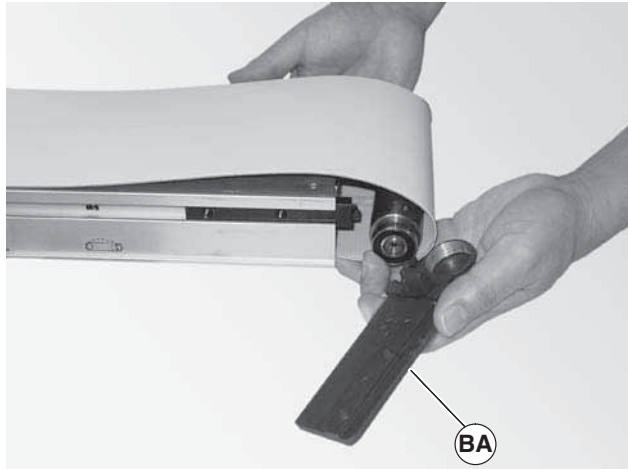

Figure 34
2. Remove the head plate (Figure 34, item BA) from the conveyor frame.